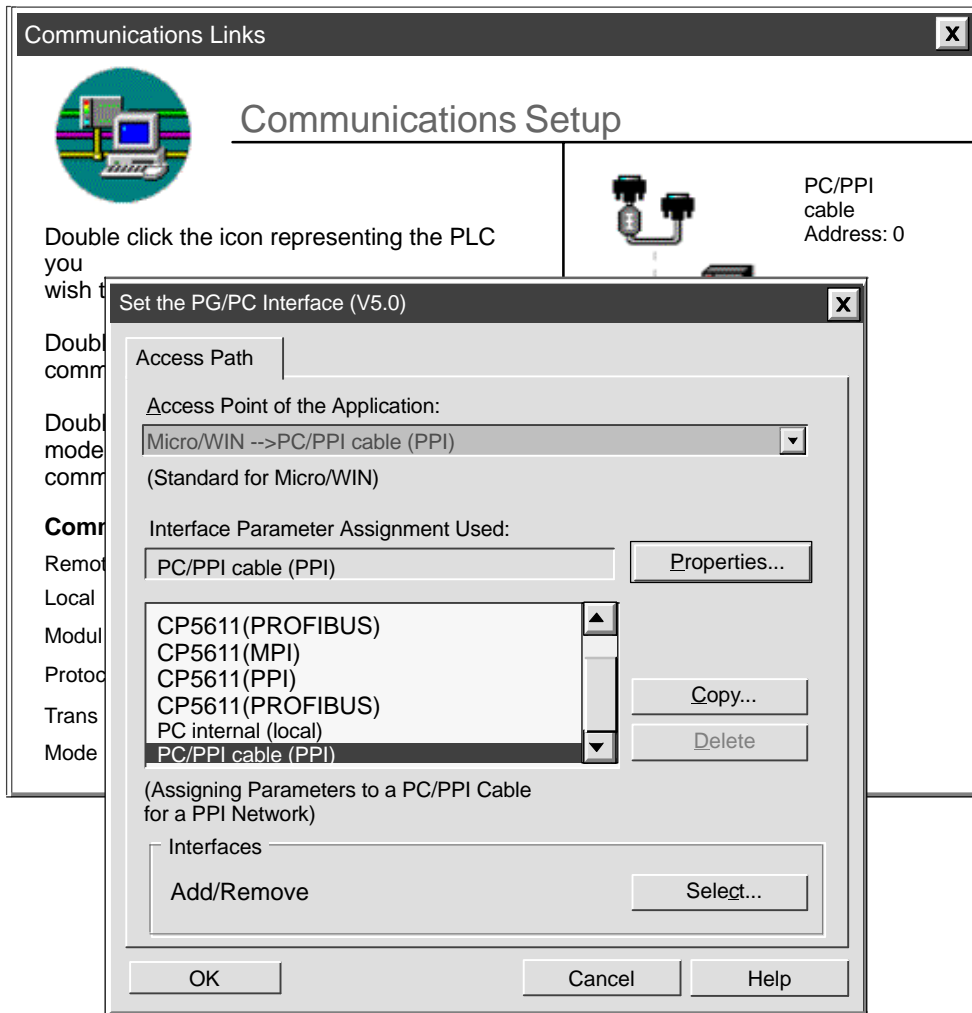
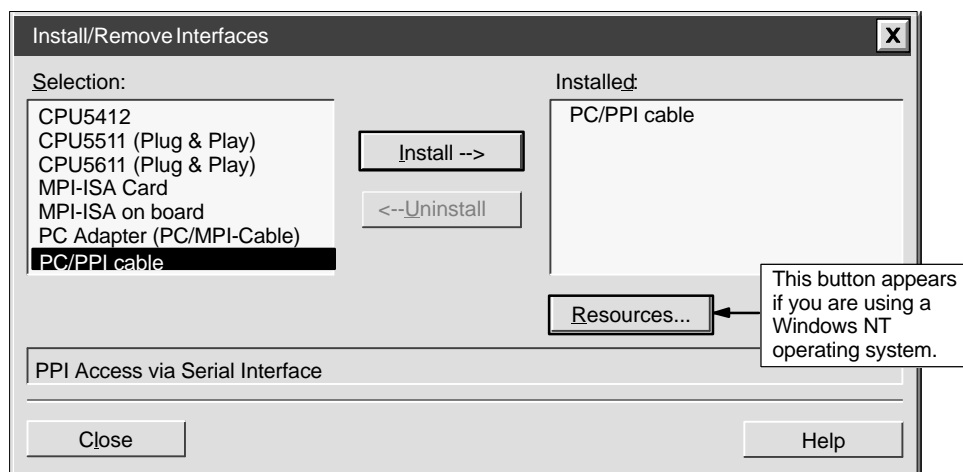
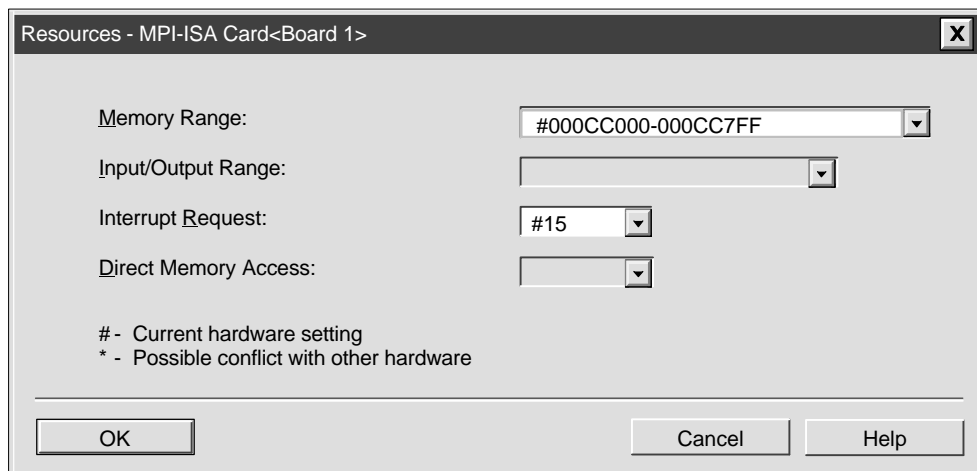

Figure 7-4 Set the PG/PC Interface Dialog Box
Figure 7-5 Install/Remove Interfaces Dialog Box
Figure 7-6 Resources Dialog Box for Windows NT
In the Communications Setup dialog box, double-click the top icon on the right-hand side. The Set the PG/PC Interface dialog box appears. See Figure 7-4.
You can install or remove communications hardware by using the Install/Remove Interfaces dialog box shown in Figure 7-5. On the left side of this dialog box is a list of hardware types that you have not installed yet. On the right side is a list of currently installed hardware types. If you are using the Windows NT 4.0 operating system, there is a “Resources” button under the Installed list box.
1. In the Set the PG/PC Interface dialog box (shown in Figure 7-4), press the “Select...” button to access the Installing/Uninstalling Interfaces dialog box, shown in Figure 7-5.
4. When you are finished installing hardware, click the “Close” button. The Set the PG/PC Interface dialog box appears, and your selections are shown in the Interface Parameter Assignment Used list box (see Figure 7-4).
3. When you are finished removing hardware, click the “Close” button. The Set the PG/PC Interface dialog box appears, and your selections are shown in the Interface Parameter Assignment Used list box (see Figure 7-4).
When you have installed a piece of hardware, select it from the Installed list box and click the “Resources” button (Figure 7-5). The Resources dialog box appears (Figure 7-6). The Resources dialog box allows you to modify the system settings for the actual piece of hardware that you installed. If this button is unavailable (gray), you do not need to do anything more.
When you have reached the Set the PG/PC Interface dialog box, be sure that "Micro/WIN" appears in the Access Point of Application list box (see Figure 7-4). The Set the PG/PC Interface box is common to several different applications, such as STEP 7 and WinCC, so you may need to tell the program the application for which you are setting parameters.
1. In the Set the PG/PC Interface dialog box (see Figure 7-4), select "Micro/WIN" in the Access Point of Application list box in the Access Path tab.